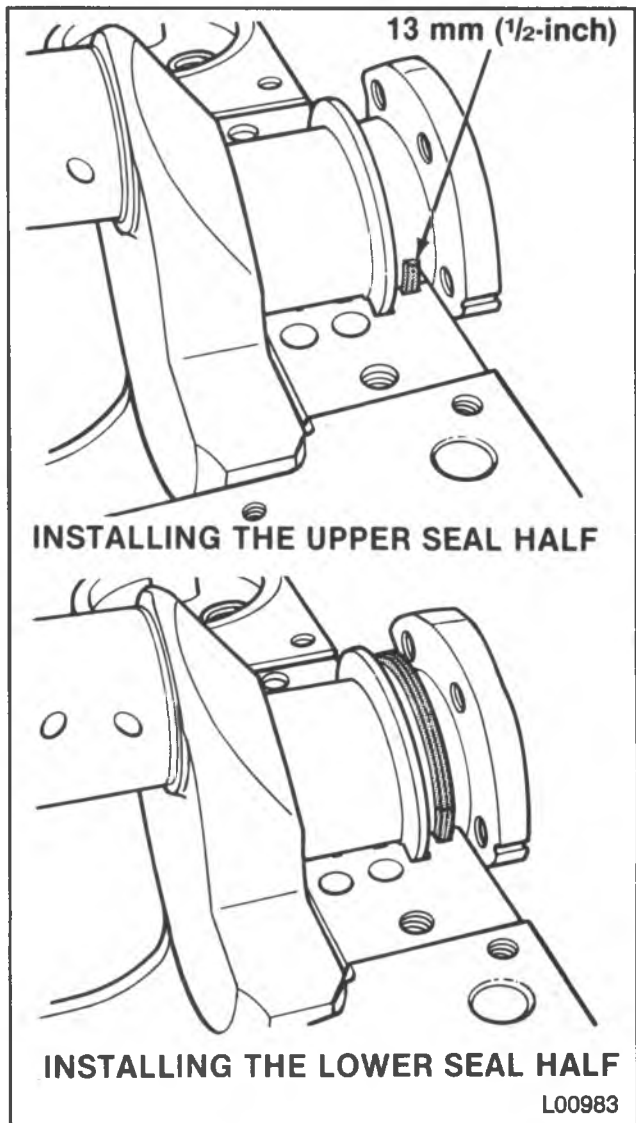

Figure 24 — Installing the Two Piece Rear Crankshaft Seal
1. Seal halves to the block (figure 24).
Install or Connect (Figures 24, 29 and 30)